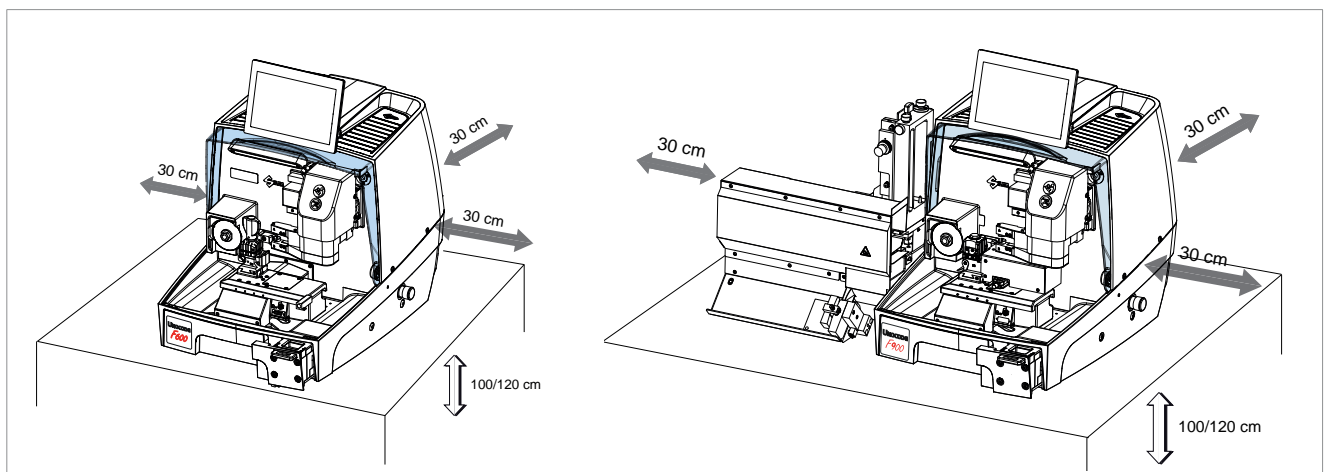

Fig. 24
- 1) Place the key-cutting machine on a solid horizontal work bench suitable for the weight of the machine (chap.3, page 11). The work bench should be approximately 100-120 cm high to facilitate access to the working parts. We recommend leaving at least 30 cm clearance behind and around the machine to ensure good ventilation and facilitate handling (Fig. 24).